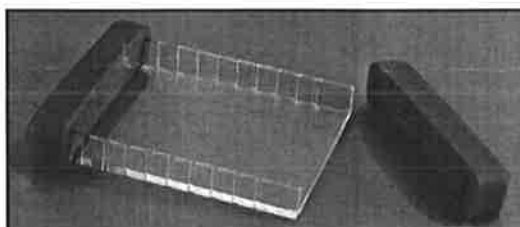

Figure 2
1. Fit the end dams onto each end of the gel casting tray, as shown in *Figure 2*. The end dams seal the ends of the tray, eliminating the need to tape the ends of the tray.